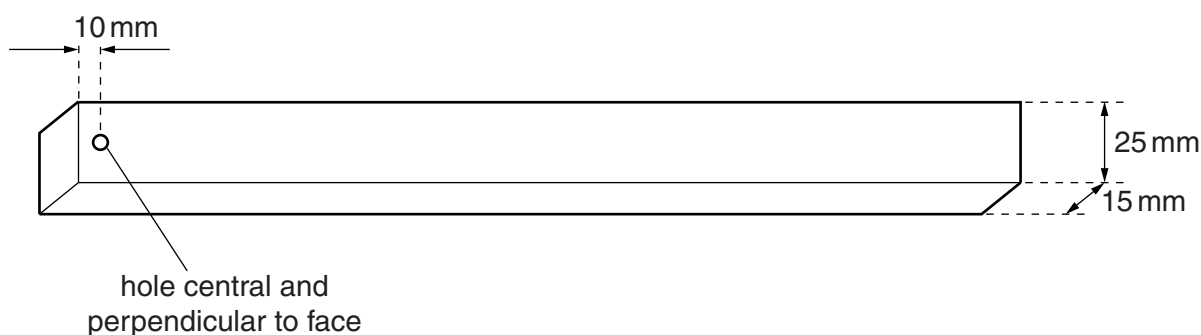

Fig. 2.1
- The mass of the piece of wood should be between 60g and 80g (the 25 mm dimension may be reduced or increased to bring the mass into this range). A hole of suitable diameter should be drilled through the wood, as shown in Fig. 2.1. The hole should be just large enough for the piece of wood to swing freely on a nail through it.